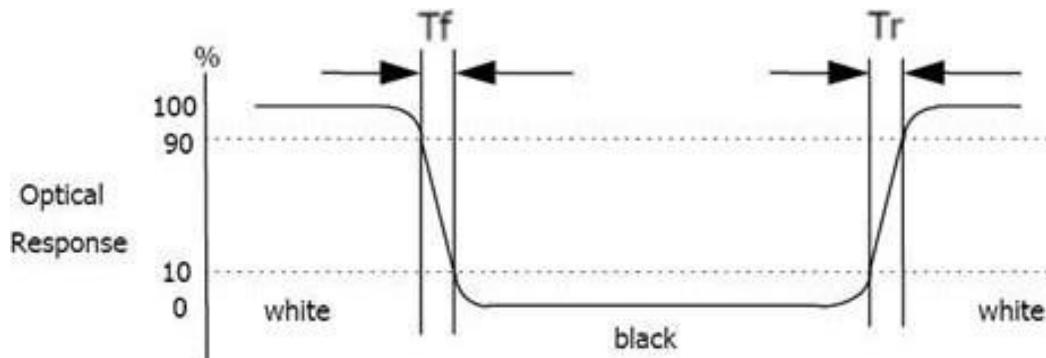

Figure 17: Response Time Testing
5. The electro-optical response time measurements shall be made as FIG.17 by switching the "data" input signal ON and OFF.The times needed for the luminance to change from 10% to 90% is Tr and 90% to 10% is Tf.